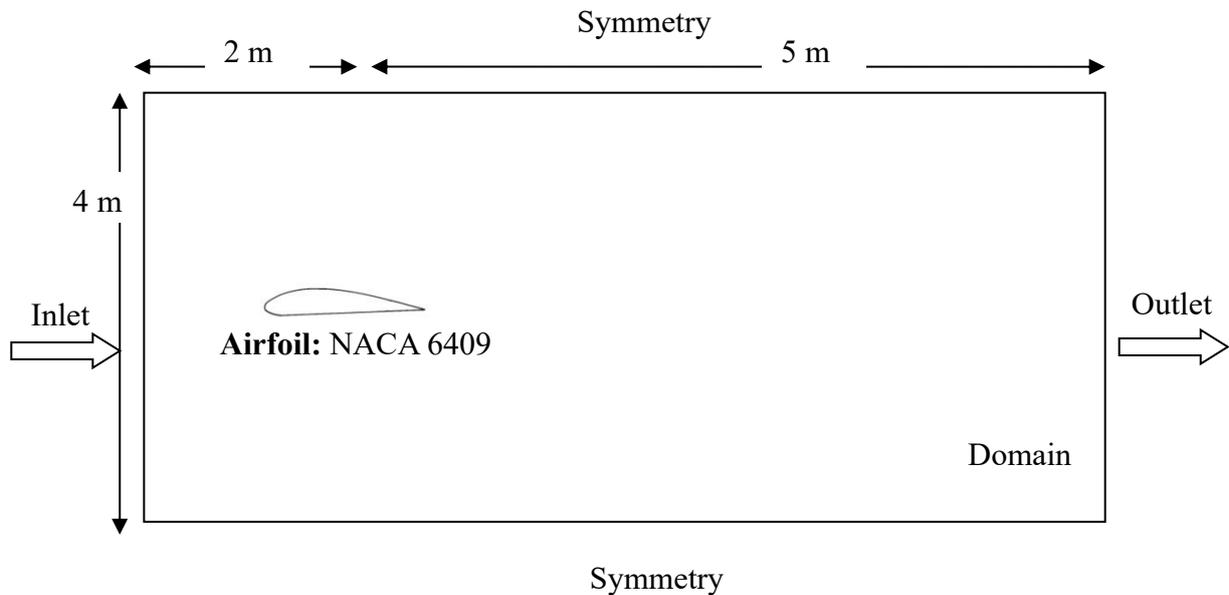

Fig 1.1 Schematic representation of Airfoil – Domain Geometry
- Named Selection → Select the boundaries and create named sections as mentioned in fig 1.1